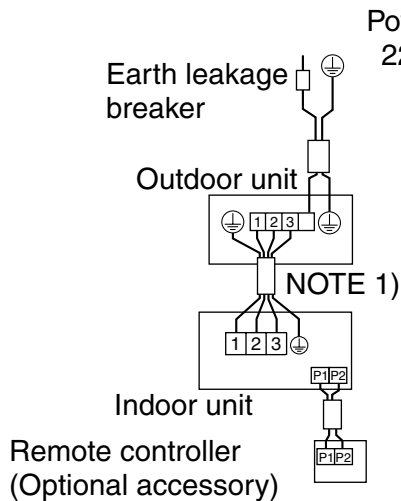

Fig. 31
- **Pair type:** 1 remote controller controls 1 indoor unit (standard system). **(Refer to Fig. 31)**